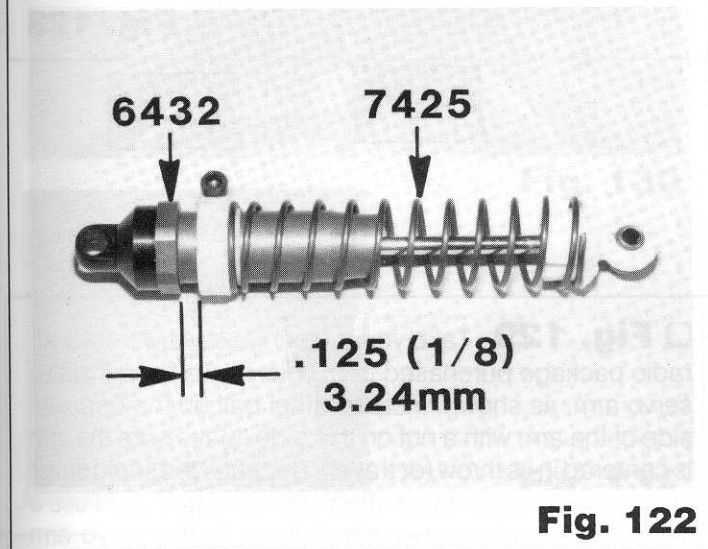

Fig. 122
□ **Fig. 122** On the front shocks, install the spring collars, as shown. Use the short gold springs.